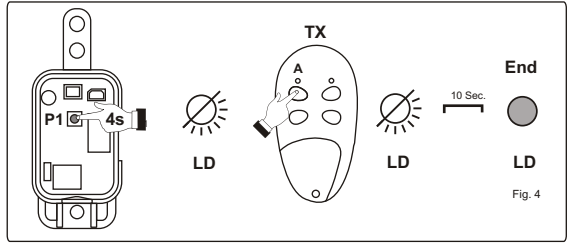

Fig. 4
- 1) Press and hold the push-button P1 for 4 sec. until the green led LD comes ON (Fig. 4); the led display the current operating mode according to par. 4.